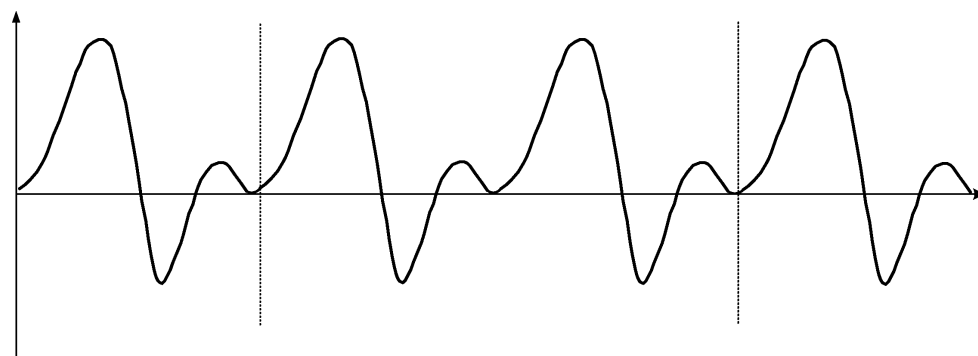

Figure 8-2. Measuring TAM on the Doppler spectrum.
- 2 Position 2 line markers to specify the time interval (number of cycles) over which the frequency values are averaged. (See Fig 8-2.)